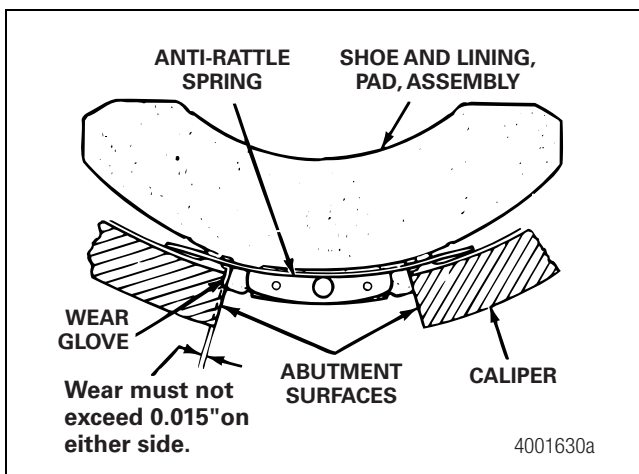

Figure 10.11
14. Check for grooves worn in the caliper by the brake shoe tabs. Figure 10.11. A worn caliper will not hold the pad assemblies in position. Replace a caliper that is worn more than 0.015-inch (0.38 mm) on either side.